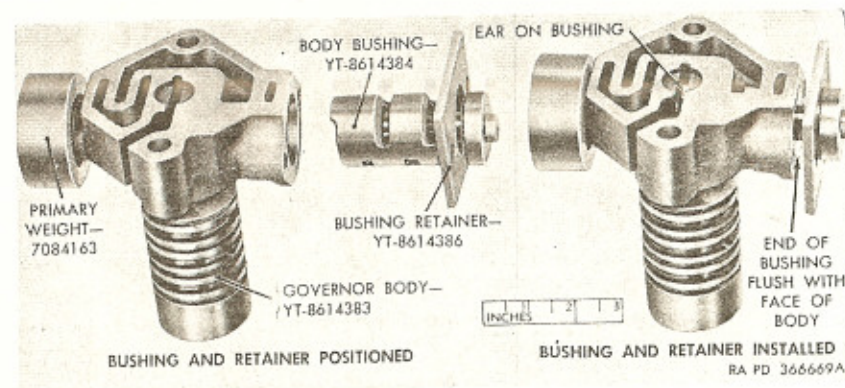
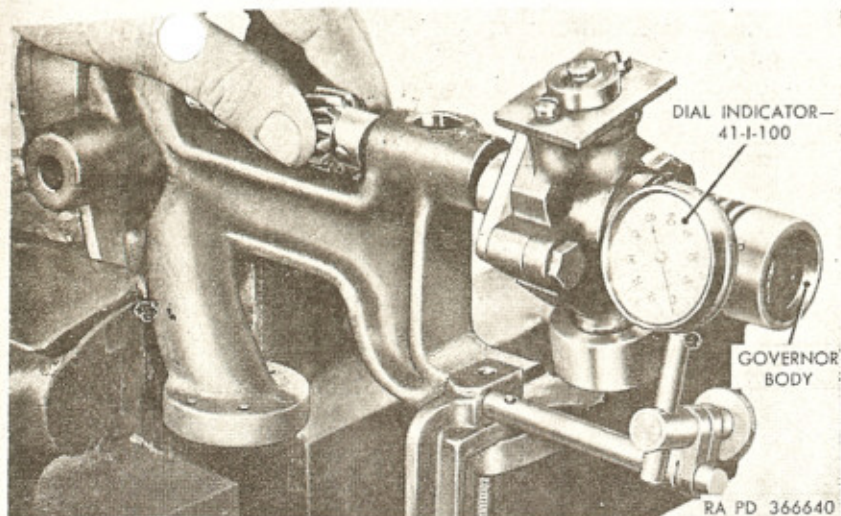

Figure 99. Installing governor plunger and secondary weight.
Figure 100. Checking governor body runout.
- b. Install pump rotor (C) over rotor internal gear (D) in pump body, with marks made at disassembly aligned.
- c. Install pump cover (B) on body and attach with four bolts (A) and lockwashers. Tighten bolts to 10 to 12 pound-feet torque.
- d. Insert governor plunger, secondary weight, bushing, and retainer (R) in bore of governor body (M) (fig. 99). Ear on end of bushing must be toward flat side of governor body. Governor body has a slot on inside to accommodate ear on bushing. When properly installed, outer end of bushing will be flush with face of body (fig. 99). Ear on bushing can then be seen through passage in governor body.
- e. Attach governor bushing retainer to governor body with two No. 8 x 1/2 screws with lockwashers (S). Tighten screws to 3 to 4 pound-feet torque.
- f. Position governor assembly on drive flange with file marks made prior to disassembly aligned. Attach governor to drive flange with two 1/4 x 1 1/8 bolts (P) and 1/4-inch external-teeth lockwashers (N). Tighten bolts to 6 to 8 pound-feet torque.
- g. Install four oil seal rings (Q) in grooves in governor body.
- h. Clamp pump body in vise and install dial indicator—41-I-100 (fig. 100) to check governor body runout. Dial indicator button should contact governor body midway between end of body and outer oil seal ring groove. Turn governor several revolutions and note reading on dial indicator. Runout should not exceed 7.005-inch total indicator reading.